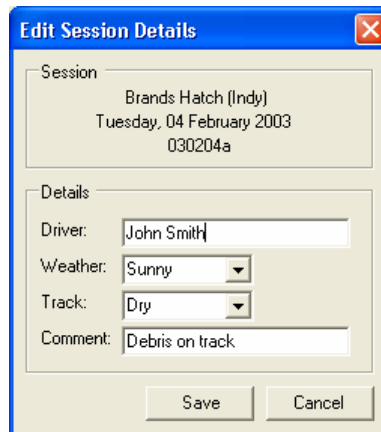

Figure 19 - Edit Session Details Dialog
2. Select **Edit** ➔ **Session Details** from the main menu. The Edit Session Details dialog (Figure 19) appears.